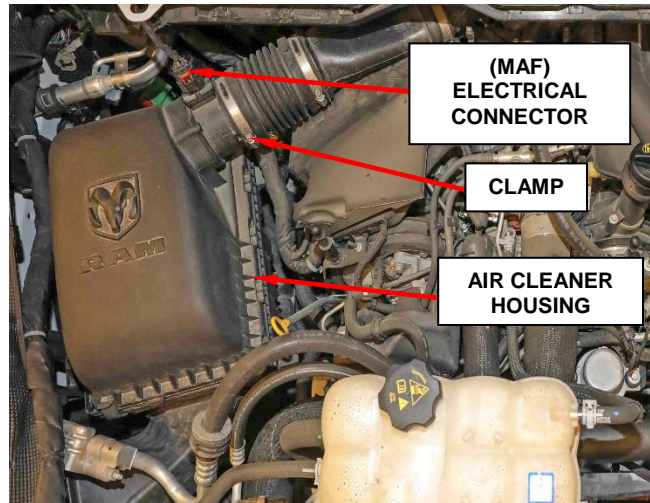

Figure 8 – MAF sensor
3. Disconnect the electrical connector from the Mass Air Flow (MAF) sensor (Figure 8).
4. Loosen clamp and disconnect the intake air tube from air cleaner housing (Figure 8).